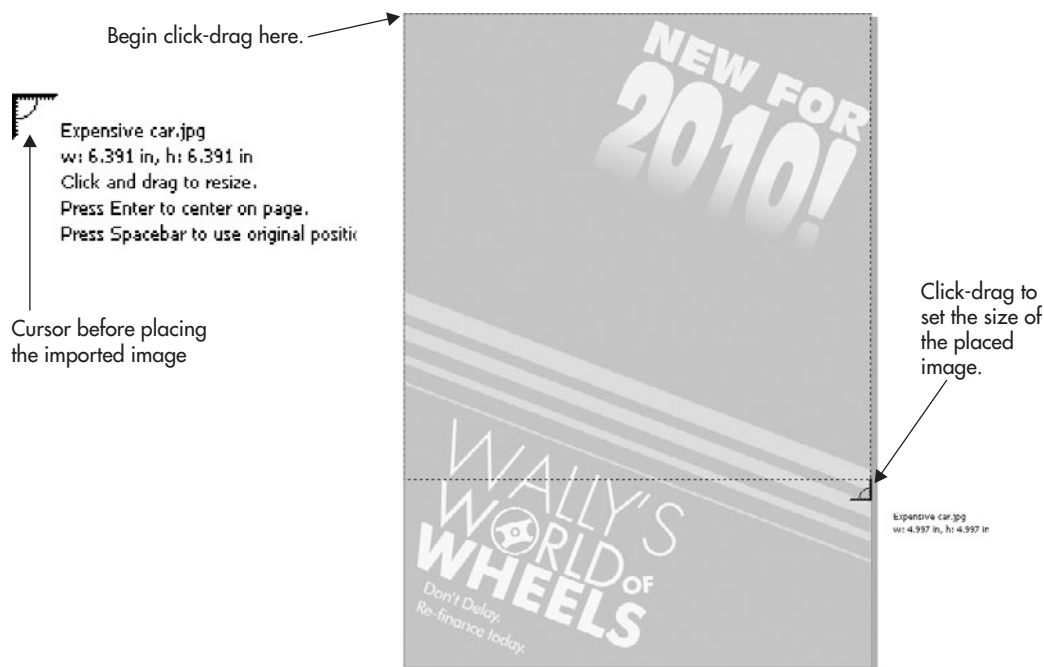

FIGURE 23-2 Import a copy of an image you want to use at a specific size by click-dragging in the document.
3. Begin your click as close as possible to the upper-left corner, and then drag down and to the right; don't release the mouse button yet. When you believe you're very close to the right edge of the layout, look at the cursor. If the dimensions it reports are close to 5 inches, release the mouse button. In Figure 23-2, if you can read the cursor, it reports a height and width of 4.997 inches, which is close enough for government work. Move your pointing device up and down on the page just a fractional amount until you're close to 5 inches, and then release the mouse button.